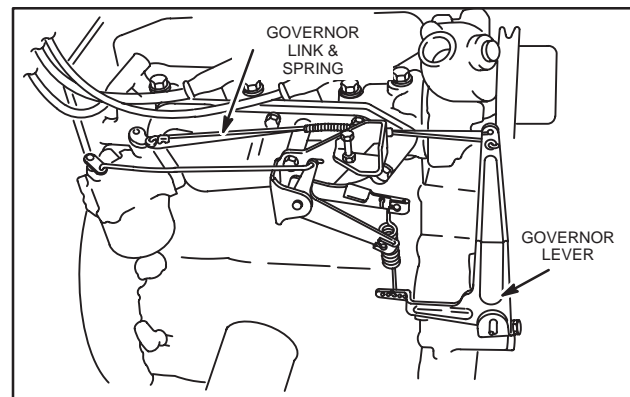

Fig. 22 – Installing Governor Lever
10. Install governor lever, Fig. 22. Do not tighten governor nut at this time.